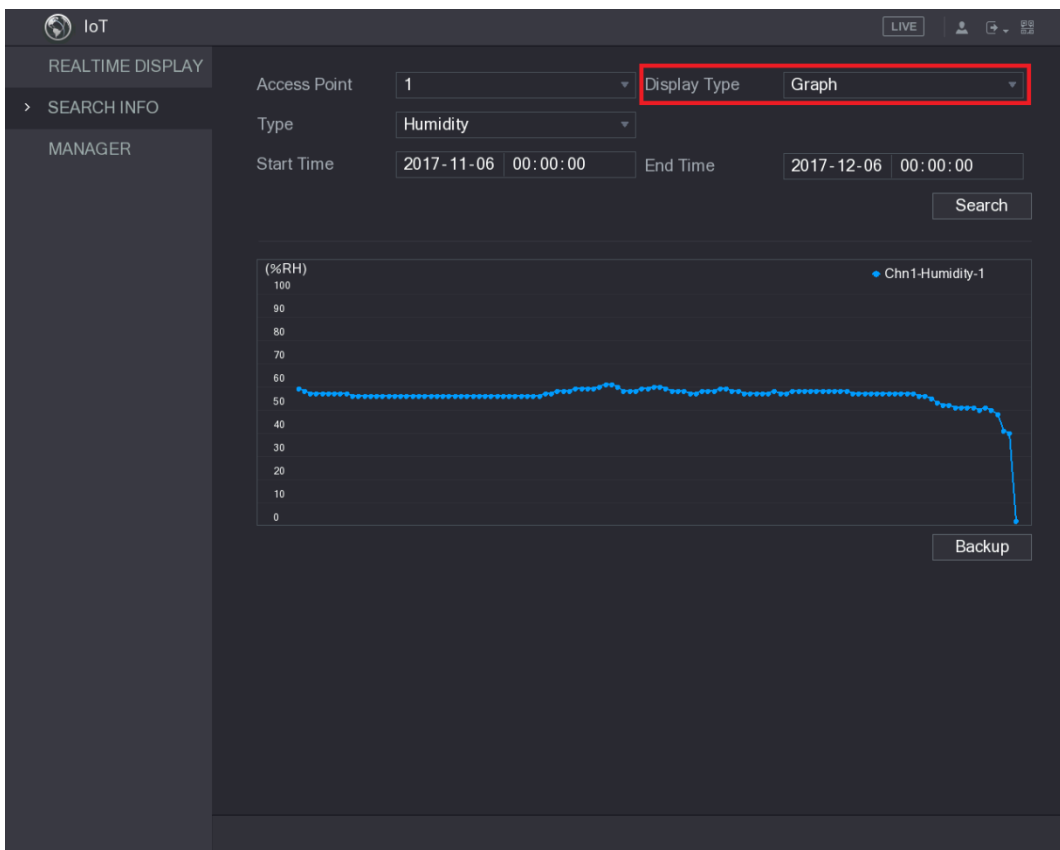

Figure 5-193
- For the data displayed in graph, see Figure 5-193.